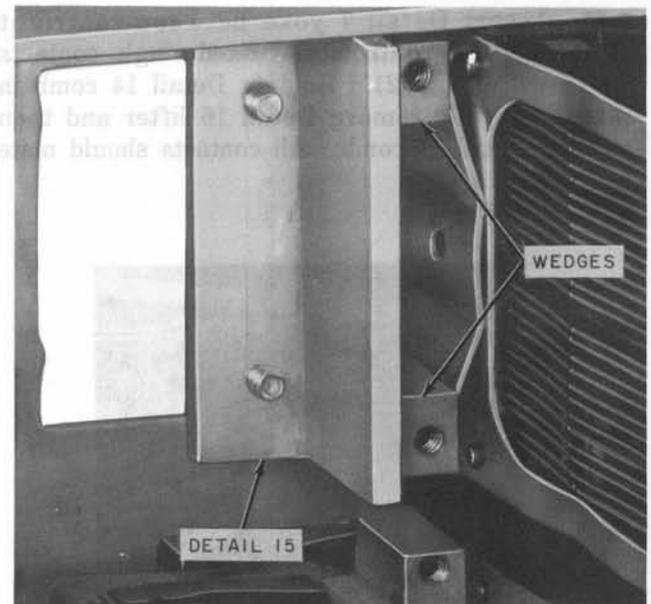

Fig. 20—Detail 15 Wedging Bracket in Place
- (a) Place Detail 15 wedging bracket to the left of the defective relay (Fig. 20) so that the flat upright of the angle shall provide a backing for the Details 20 to 33 wedges against the clamping spring of the defective relay. The 2-threaded holes of the wedging bracket shall align with the empty mounting holes on the left next to the defective relay. Insert the mounting screws from the rear and tighten.